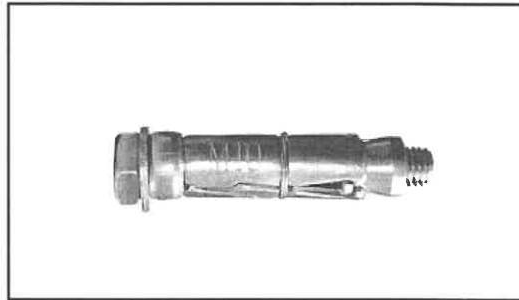

FIGURE 1.5
- 1.5 FIGURE 1.5 below shows a joining fixture.